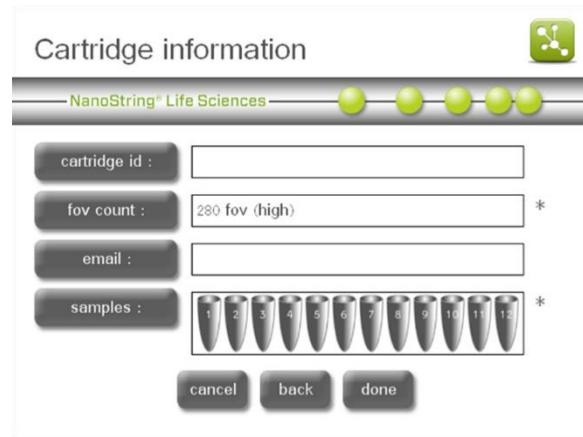

Figure 70: The ‘Cartridge information’ screen.
1. From the Main Menu (**Figure 50**), press create CDF. The ‘Cartridge information’ screen will appear (**Figure 70**).